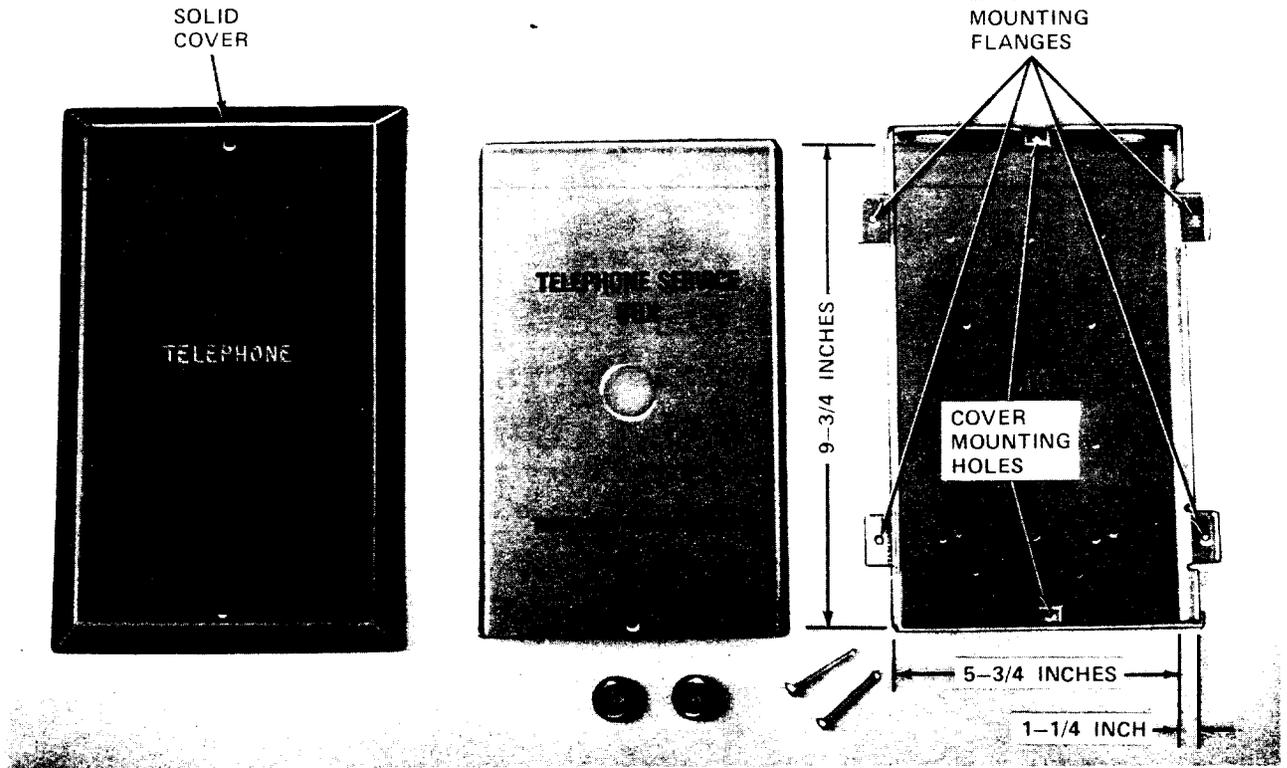

Fig. 6—810A Station Service Box
**B. 810A Station Service Box (Fig. 6)**